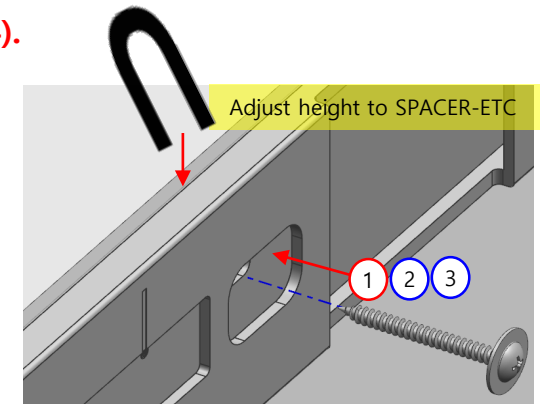
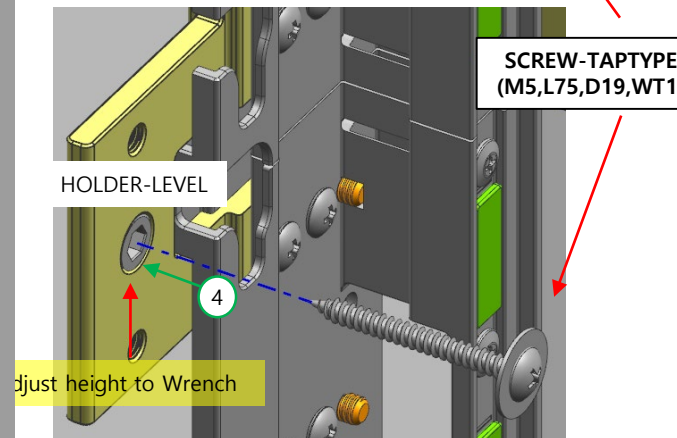

Fig.3
Fig.4
* Insert and fasten (Fig.3) the enclosed sheet according to the flattening of the wall, adjust the height by adjusting the HOLDER-LEVEL, and then tighten the SCREW (Fig.4).